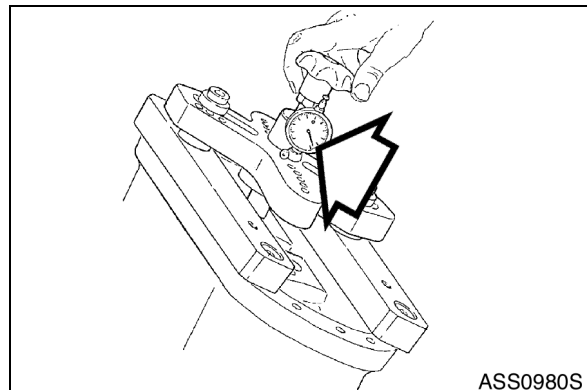

Figure 99
B. Size 140 - 200 (Figure 99).